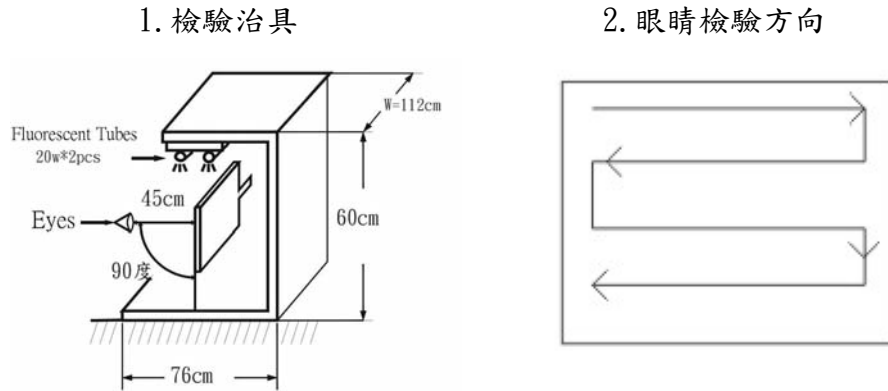

Figure 11-1
(1) The inspection was performed with two 20W(1800±500 LUX) fluorescent lamp lighting from back or side. The panel was placed 45cm away from eyes. (Figure 11-1).
[(1) 檢測始用之燈光為二盞 20W(1800±500 LUX) 白熾燈光，並於面板後側或上側照射，檢測時須放置在離眼睛 45cm 處(Figure11-1)]